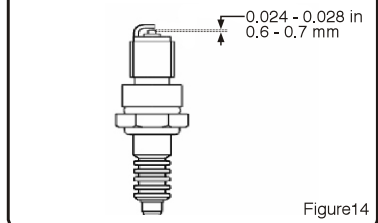

Figure 14
6. Check that the gap of the spark plug is 0.024-0.028 in. (0.6-0.7 mm). (See Figure 14)